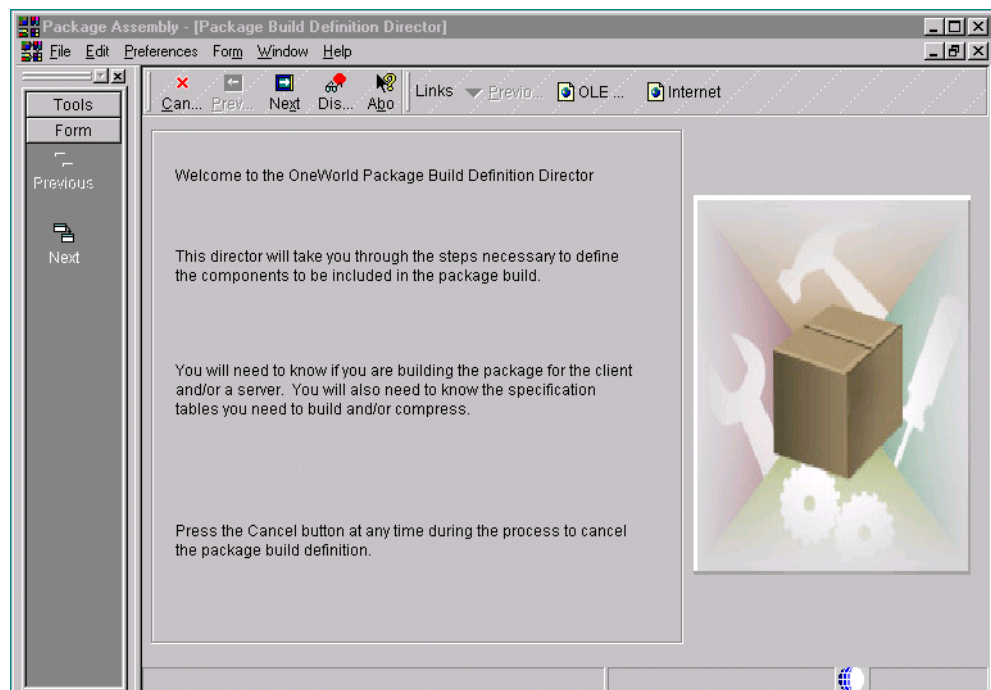

Figure 153. Package Build Definition Director
1. Click **Add** to launch the Package Build Definition Director. The Package Build Definition Director form appears (Figure 153).